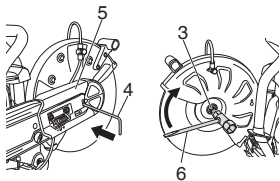

Fig. 7
2. Insert the hex. wrench (4) into the hole of arm cover (5) and lock the spindle in place while tightening the bolt (3) securely using the combi box spanner (6). (**Fig. 7**)